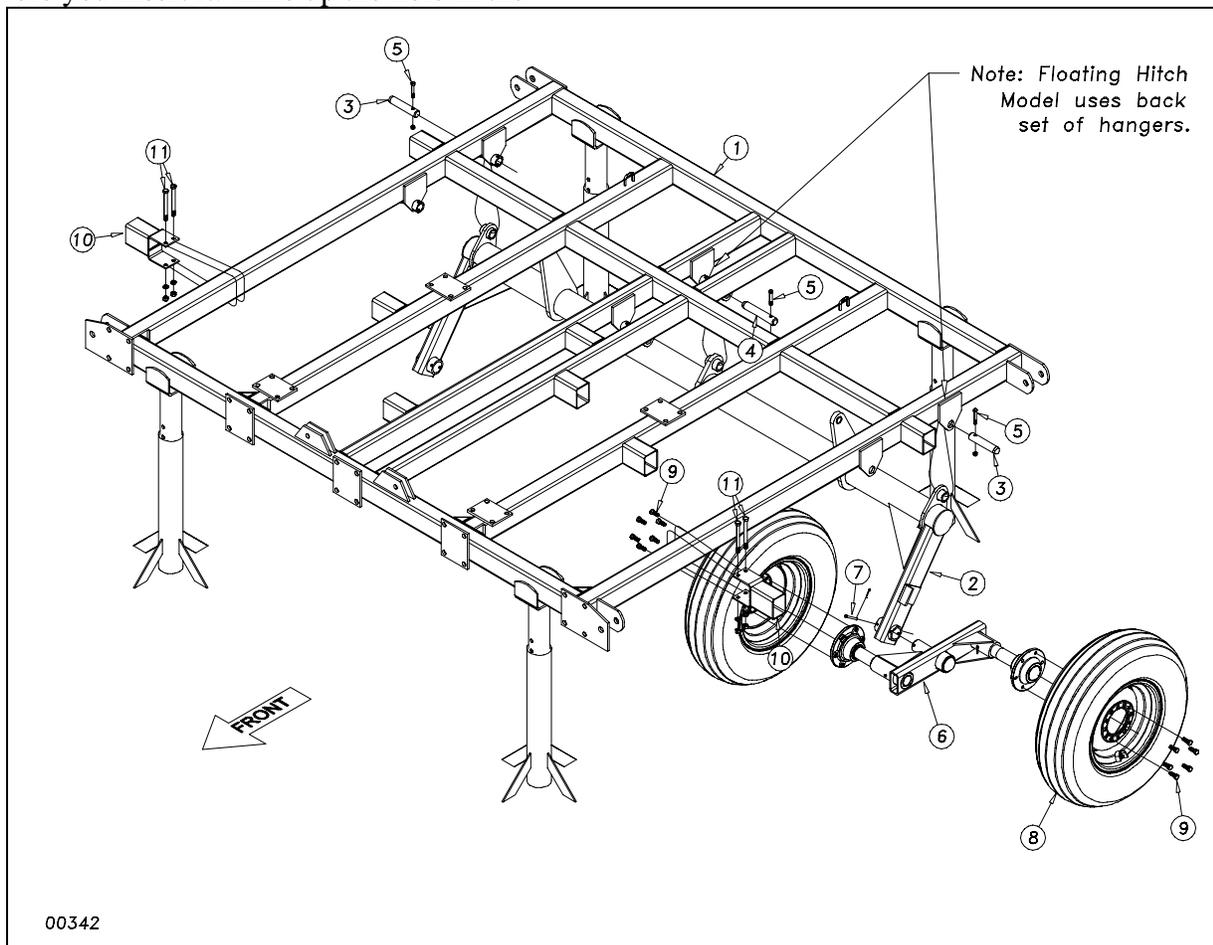

Figure 1
After uncrating the machine, place the center frame (1) Figure 1, in the center of your work area on stands. Pin the torque tube (2) to the center frame with the 1 1/4 x 6 pins (3) and 1 1/4 x 7 pin (4), secure them with the 3/8 x 2 1/4 Gr. 8 hex bolts (5) & top lock nuts.